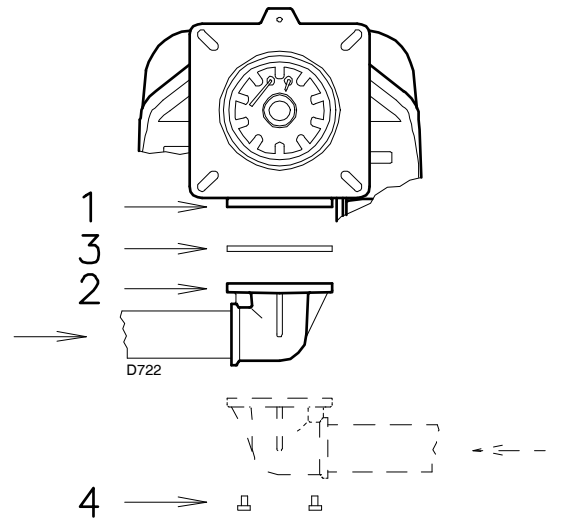

Fig. 19
- The gas train can enter the burner from the right or left side, depending on which is the most convenient, see Fig. 19.
- The gas train must be connected to the gas attachment 1)(Fig. 19) with the flange 2), the gasket 3) and the screws 4) supplied with the burner.